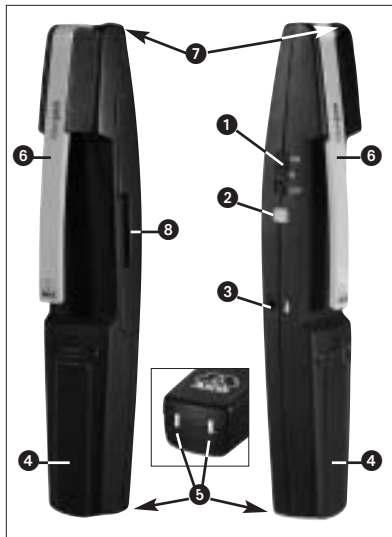

Fig. 1: MP 40 controls.
2.5 Controls (Refer to fig. 1)